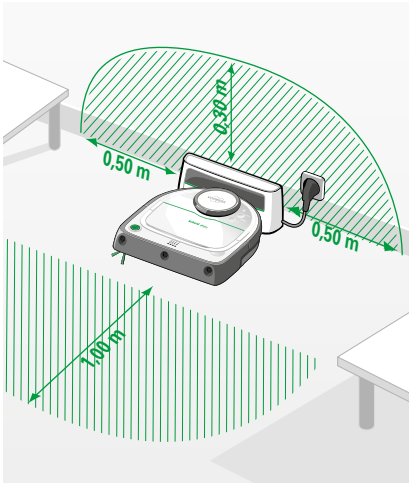

Figure 2.4 Setting up the base station
- Place the base station on a level surface next to a wall so that the charging contacts and infrared window are freely accessible for the Kobold VR300 Robot Vacuum Cleaner (Figure 2.4). Ideally there should be no height differences or obstacles 0.3 m above the base station or 0.5 m either side of it.
- Plug the mains cable into the designated charging socket (5) on the base station and ensure that it is fully inserted.
- Wrap the cable around the cable holder (3).
- Ensure that you leave enough cable protruding from the lower opening in the housing (left (4) or right (2)) to connect the mains cable with mains plug to the socket (1).